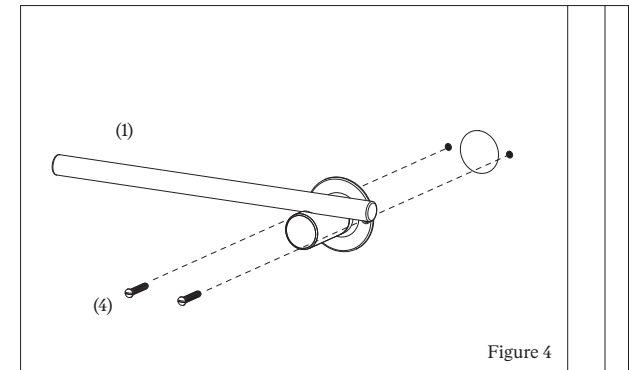

Figure 4
- 3.1 Drill appropriate size holes and install the halves on either side of the door, ensuring the levers function in the correct direction. (Figure 4)